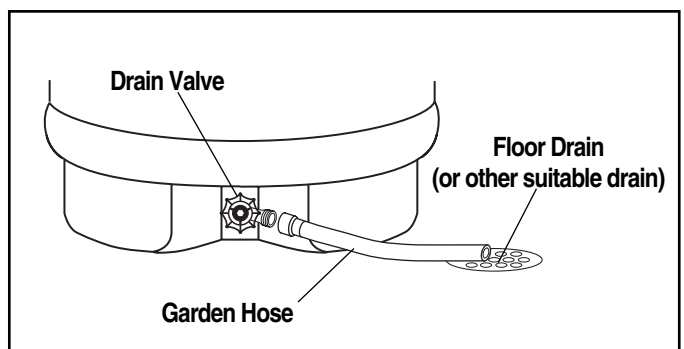

Figure 15 — Draining the Tank
In order to drain water heater, turn off the power supply, then turn off cold water supply. Next, it is necessary to open a hot water faucet or lift the handle on the relief valve to admit air to the tank, and KEEP OPEN. Attach a garden hose to the drain valve on the water heater, and open the valve. Direct the stream of water to a drain where it will do no damage. (See Figure 15).
- D. A water heater’s tank can act as a settling basin for solids (sand, silt, dirt and mineral scale) suspended in the water. It is, therefore, not uncommon for these deposits to accumulate in the bottom of the tank. It is suggested that a few quarts of water be drained from the water heater’s tank **ONCE EVERY MONTH** to clean the tank of these deposits. (See Figure 15)
- C. Fasten a length of garden hose to the drain valve. Place the other end of the hose at a floor drain, or other suitable location. (See Figure 15)
- Fasten a length of garden hose to the drain valve. Place the other end of the hose at a floor drain, or other suitable location. (See Fig. 15)